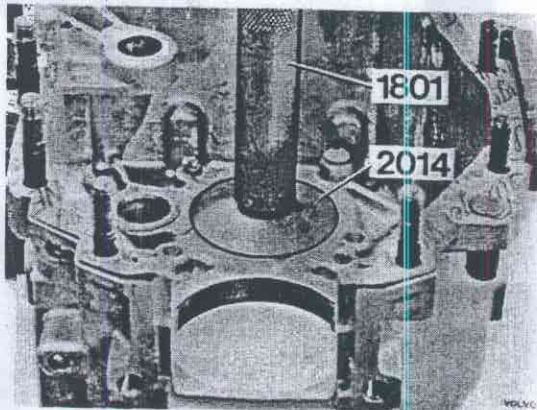

Fig. 43-66. Driving out outer race
26. Drive out the outer races for the intermediate shaft bearing with 2014 + 1801, Fig. 43-66.